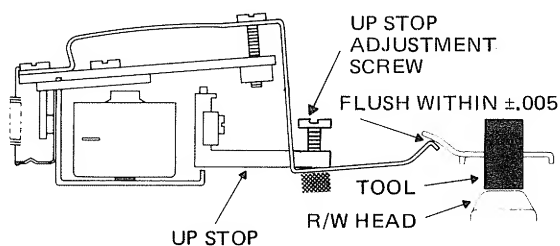

FIGURE 2 HEAD LOAD ACTUATOR UPSTOP ADJUSTMENT
- Adjust up stop on actuator so that bail just touches Head Load Arm or has $.005$ " clearance or lifts Load Arm $.005$ ". Reference Figure 2.